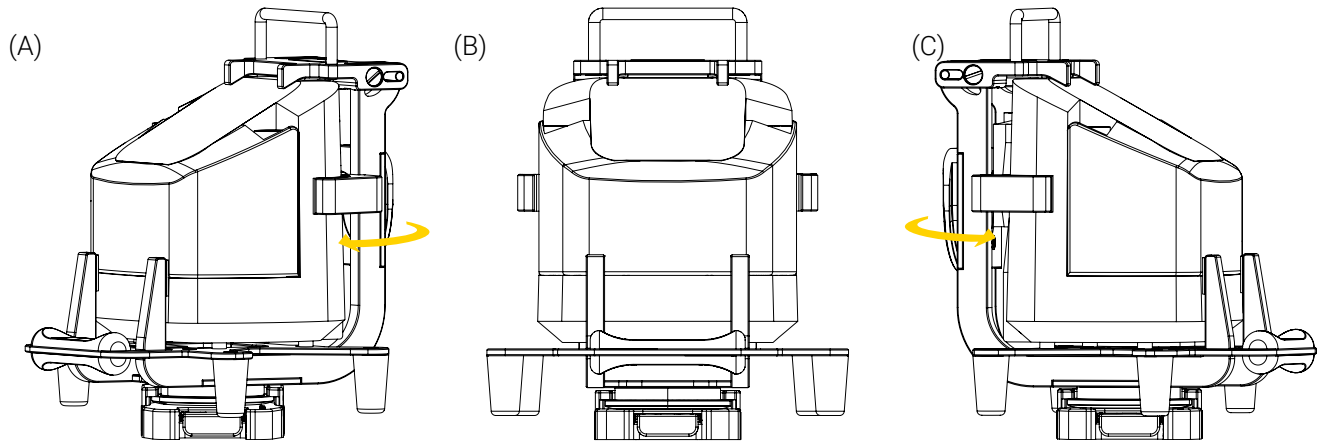

Figure 13: Operating the Bracket Pro Serie 61 – FL
3. For Bracket Pro Serie 61 – FL models that have a bottom disc, rotate the support bracket up to 360° clockwise or counterclockwise to the desired position (Figure 13).